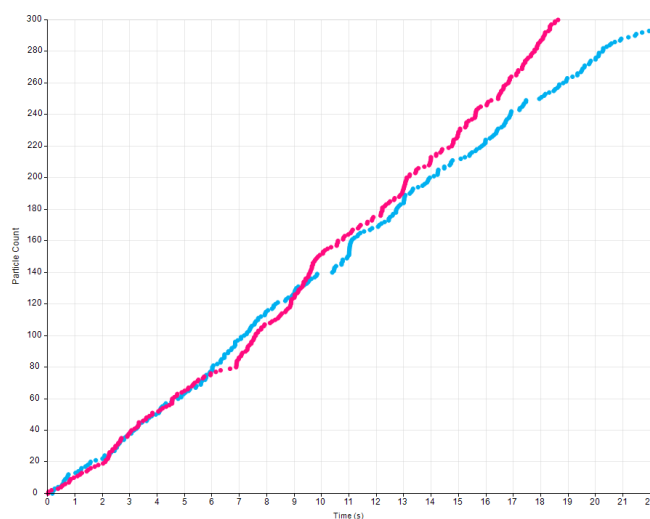

Figure 20. An unacceptable particle rate plot, with no clear separation of rates between different pressures.
6. If any rate lines overlap or are in the wrong order, the recordings will need to be repeated (Figure 20).